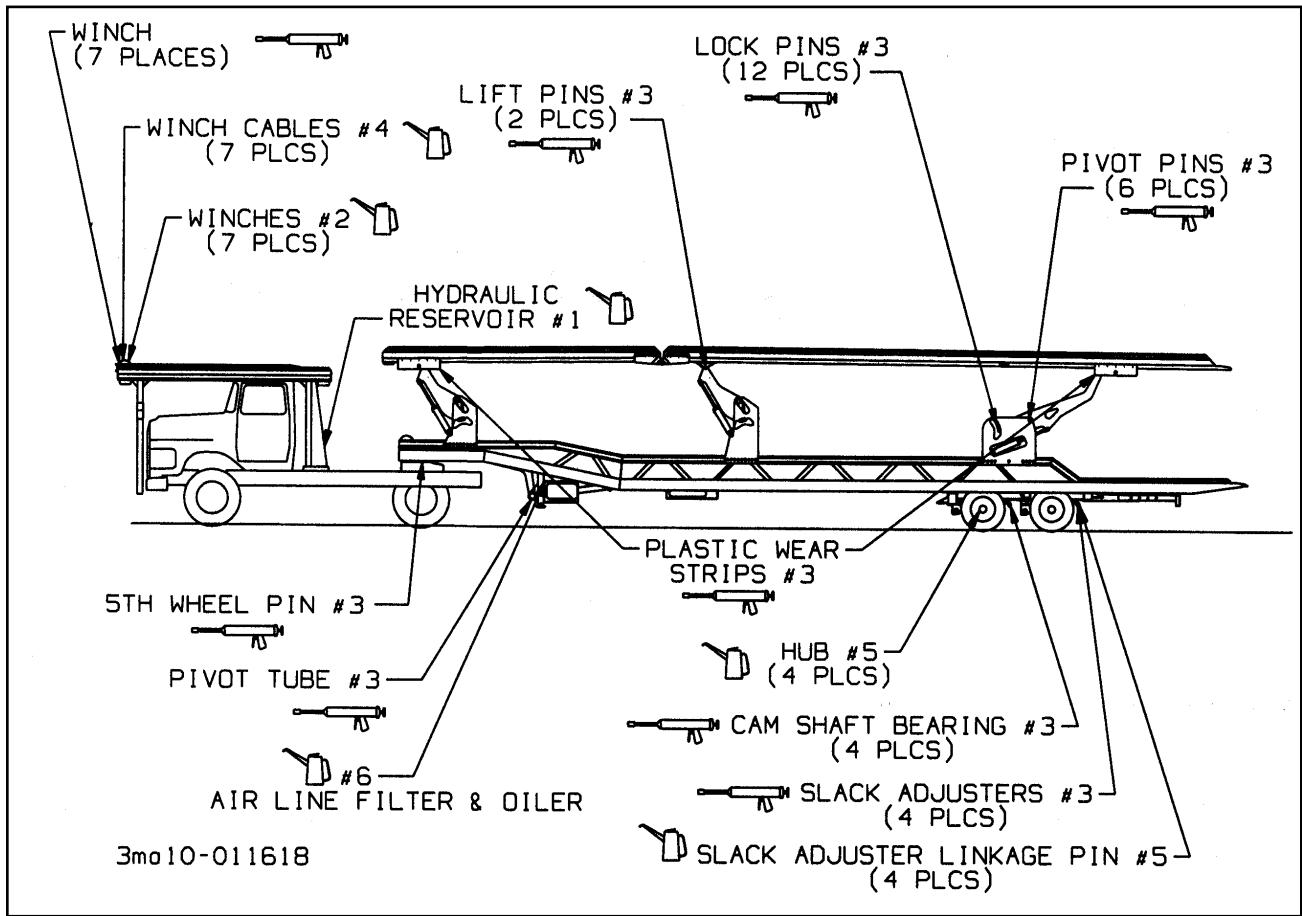

Figure 4-1 Lubrication Points
Figure 4-1 and Table 4-1 details lubrication points and intervals, method of application, and lubricant required, and illustrates the location of each part to be lubricated. During inspections of the semitrailer, if lubricants are found to be fouled with dirt or sand, those parts should be cleaned with paint thinner, dried, and relubricated immediately. Dirt in a lubricant forms an abrasive compound that will wear parts rapidly.
- b. Clean the sliding surfaces with solvent or mineral spirits every six months or more frequently if exposed to extreme dirt or weather conditions. The slide wear strips are impregnated with a special lubricant, however, additional lubrication may be required to prevent chattering or squealing. **See Lubrication Points and Specifications in Figure 4-1 and Table 4-1 .**